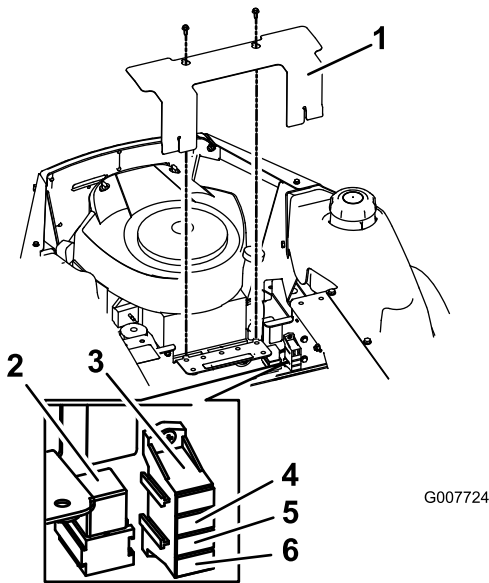

Figure 34
1. Raise the seat to gain access to the fuse holder (Figure 34).
2. Remove cover as shown in Figure 34.